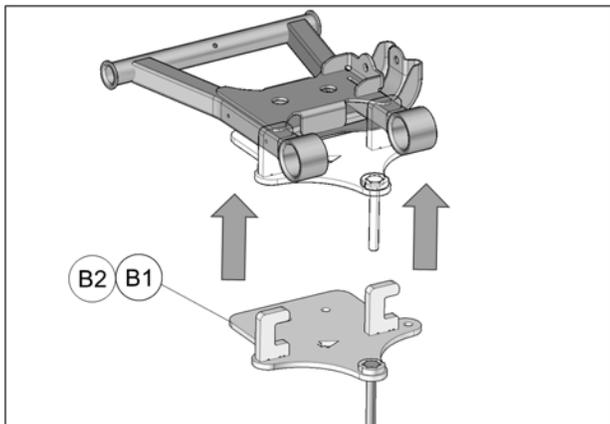

Fig. 6
5. Install anchor bracket (B1-B2) under lower suspension arm; C-shaped openings on bracket must be located over suspension arm tubes. See Fig. 6